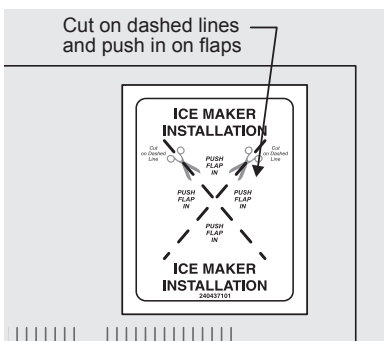

Figure 9
8. Locate the Ice maker installation label on the rear outside right top corner of the refrigerator. Cut the label on the dashed lines, and push flaps inward until they stick to the unit. See Figure 9.